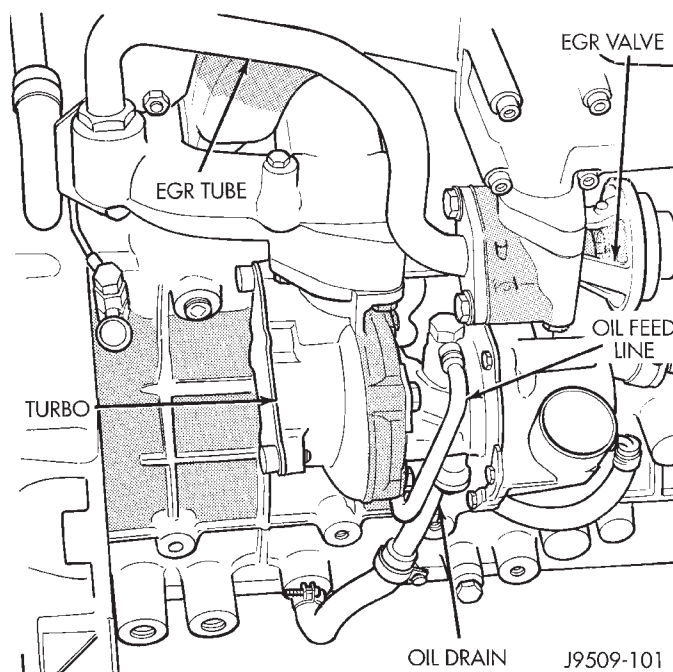
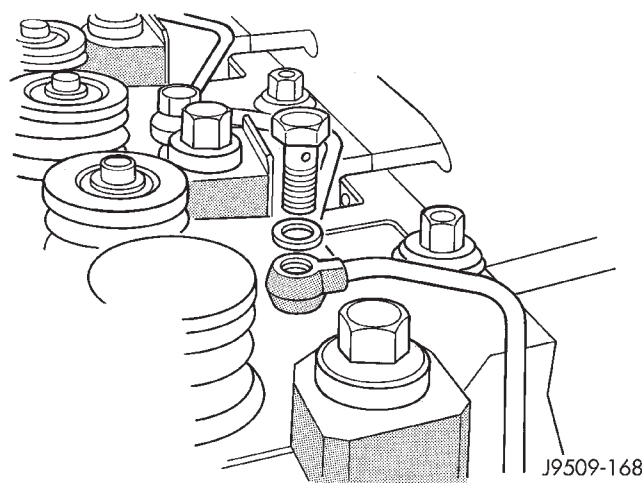

Fig. 16 Turbocharger
Fig. 17 Rocker Arm Oil Feed Lines
(8) Loosen cylinder head cover bolts.
(9) Raise vehicle on hoist.
(10) Remove transmission crossmember bolts, and lower rear of engine.
(11) Remove the upper radiator hose and coolant recovery hose.
(12) Remove water manifold and recovery hose.
(13) Disconnect the heater hoses and coolant recover bottle hose.
(14) Disconnect EGR tube from EGR valve.
(15) Remove EGR valve.
(16) Remove exhaust heat shield from exhaust manifold.
(17) Remove exhaust heat shield from down pipe.
(18) Remove exhaust down pipe from turbocharger (Fig. 16).
(19) Disconnect oil feed line from turbocharger.
(20) Disconnect oil drain line from turbocharger.
(21) Remove Exhaust manifold (refer to Group 11, Exhaust System and Intake Manifold).
(22) Remove Intake manifold (refer to Group 11, Exhaust System and Intake Manifold).
(23) Remove oil feed line for rocker arm assemblies (Fig. 17).
(24) Remove Crankcase breather hose from rear of the valve cover.